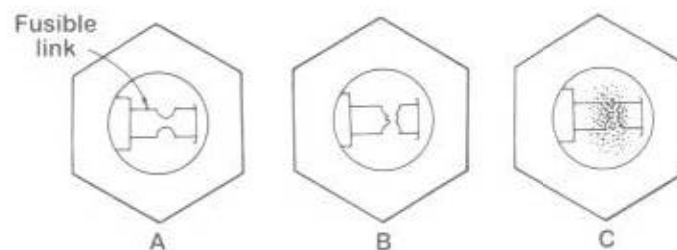

Fig. 19-1 Plug fuse: A—normal; B—blown because of overload; C—blown due to short circuit.
**Plug fuses** To tell if a plug fuse is blown, look through the glass window on top. In a normal fuse you will see a small link of metal, usually with a narrower portion in the middle, as shown in A of Fig. 19-1. If the fuse has blown because of an ordinary overload, it will have the appearance of B in the same illustration; the narrow part of the link is gone. If the inside of the window is spattered with metal as in C, it has blown because of a short circuit. In that case, you must investigate and correct the cause of the short circuit before replacing the fuse.